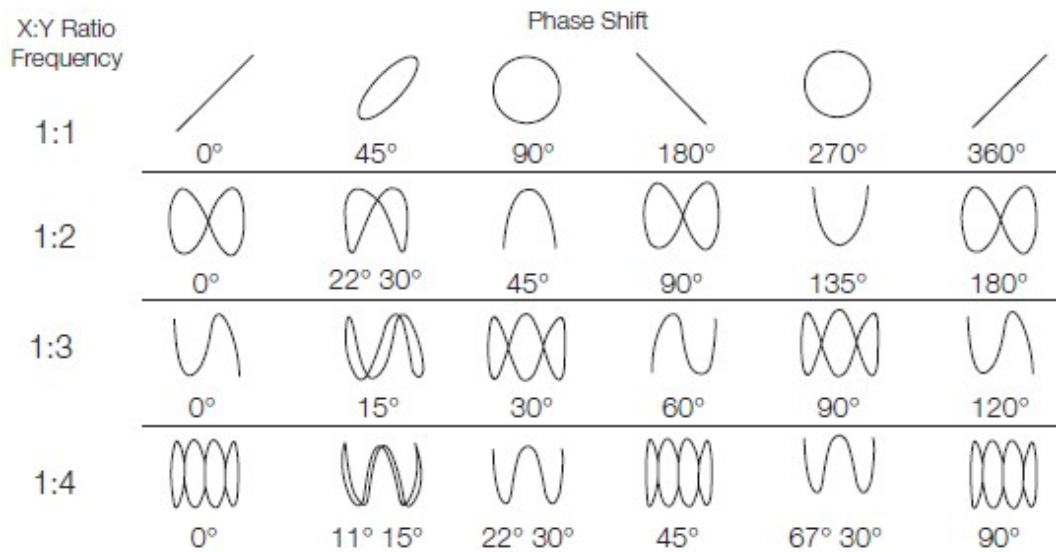

Figure 1.3: Phase Shift Lissajous Measurements
- (b) Draw or attach Figure 1.3 *Phase Shift Lissajous Measurements*.
- (c) Use the AFG1022 and the TDS2024 to produce and capture a measured version of Figure 1.3 *Phase Shift Lissajous Measurements*.